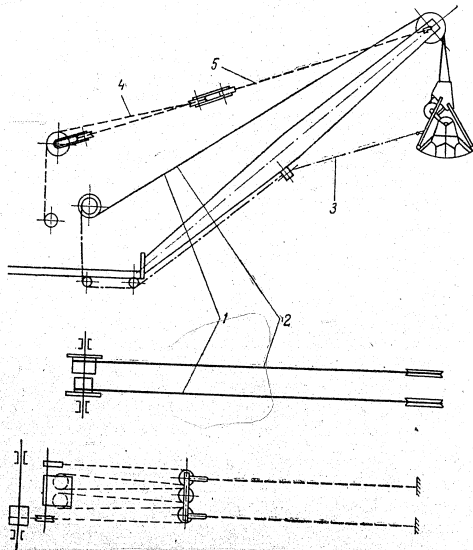

Fig. 11. Cable Reeving for Clamshell Operation:
5. Suspend the clamshell bucket and the reeve the cables according to the diagram shown in Fig. 11.
Reeving of closing cable. One end of closing cable 1 (see Fig. 11) is fastened by a thimble and clamps at the clamshell head, passes through the clamshell sheaves, RH boom head sheave and the second end is fastened on the RH drum of the main winch by a wedge.